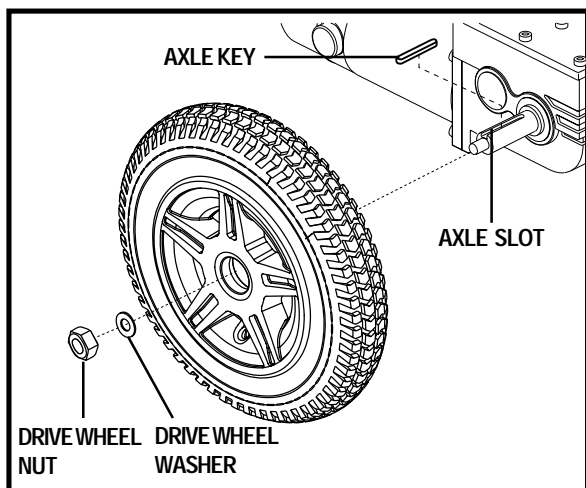

Figure 25. Quantum 600E Drive Wheel
4. Remove the drive wheel nut and washer from the axle. See figure 25.